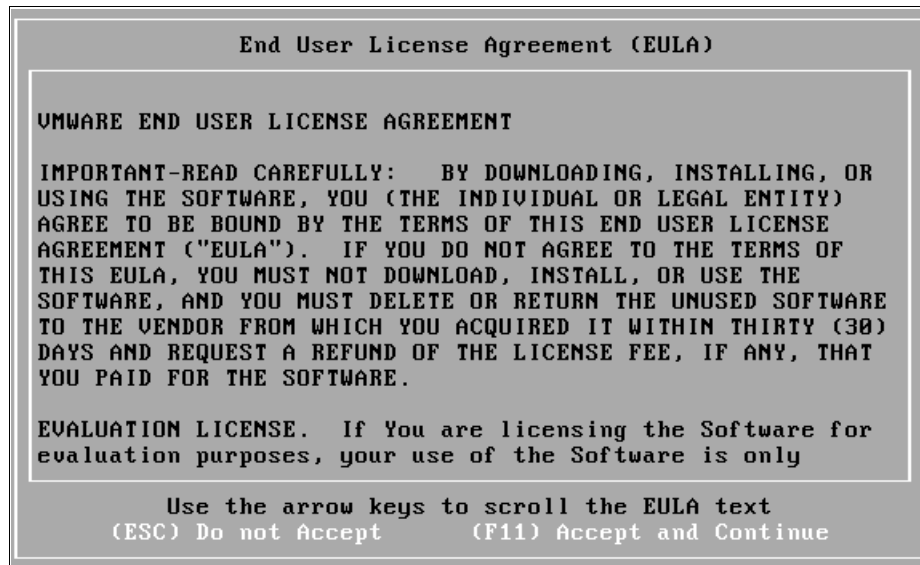

Figure 2-118 Accept the License Agreement
3. Read and accept the license agreement, as shown in Figure 2-118.